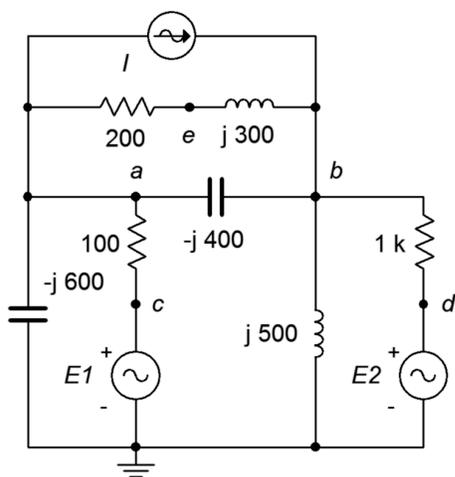

Figure 5.46
81. Use any method or combination of methods in the circuit of Figure 5.46 to determine  $v_{ad}$ .  $E1 = 90\angle 0^\circ$ ,  $E2 = 120\angle 0^\circ$  and  $I = 400E-3\angle 180^\circ$ .